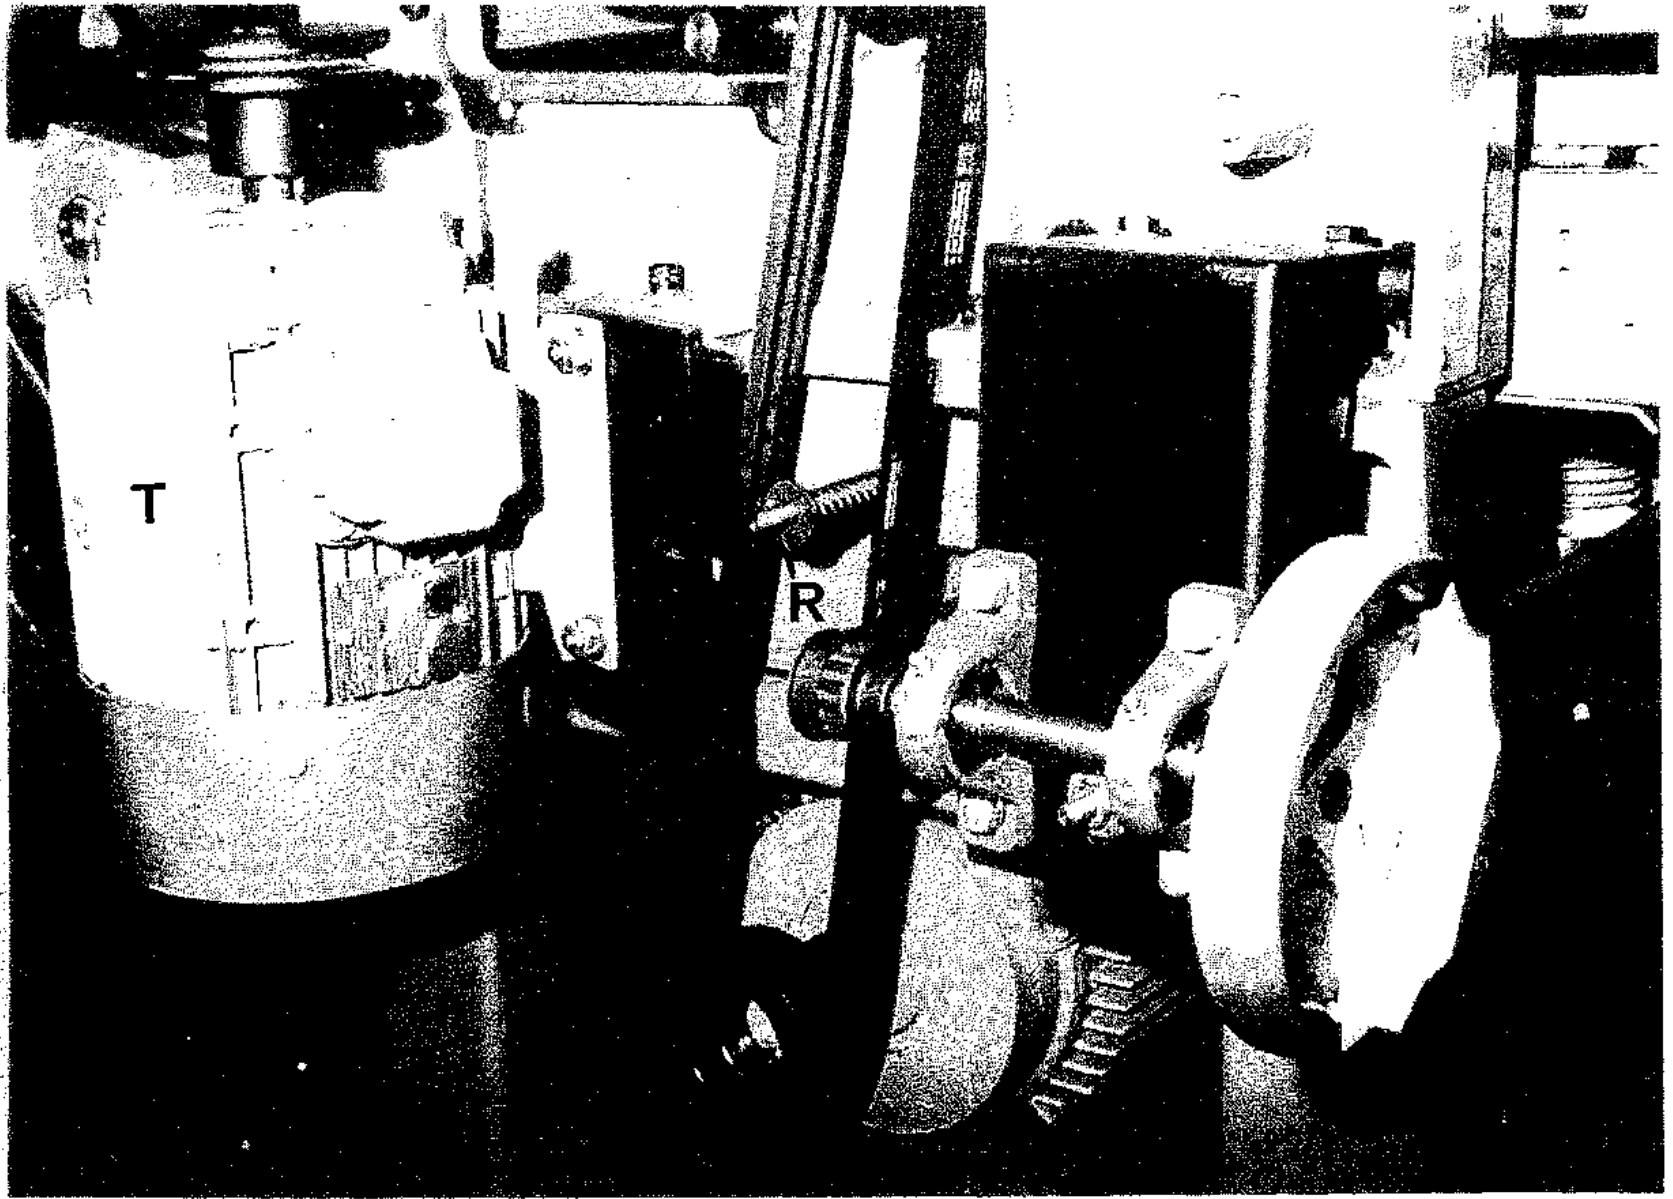

FIG.28
- e) Pivot side head drive motor "T" FIG.28 until clear of stud "R".